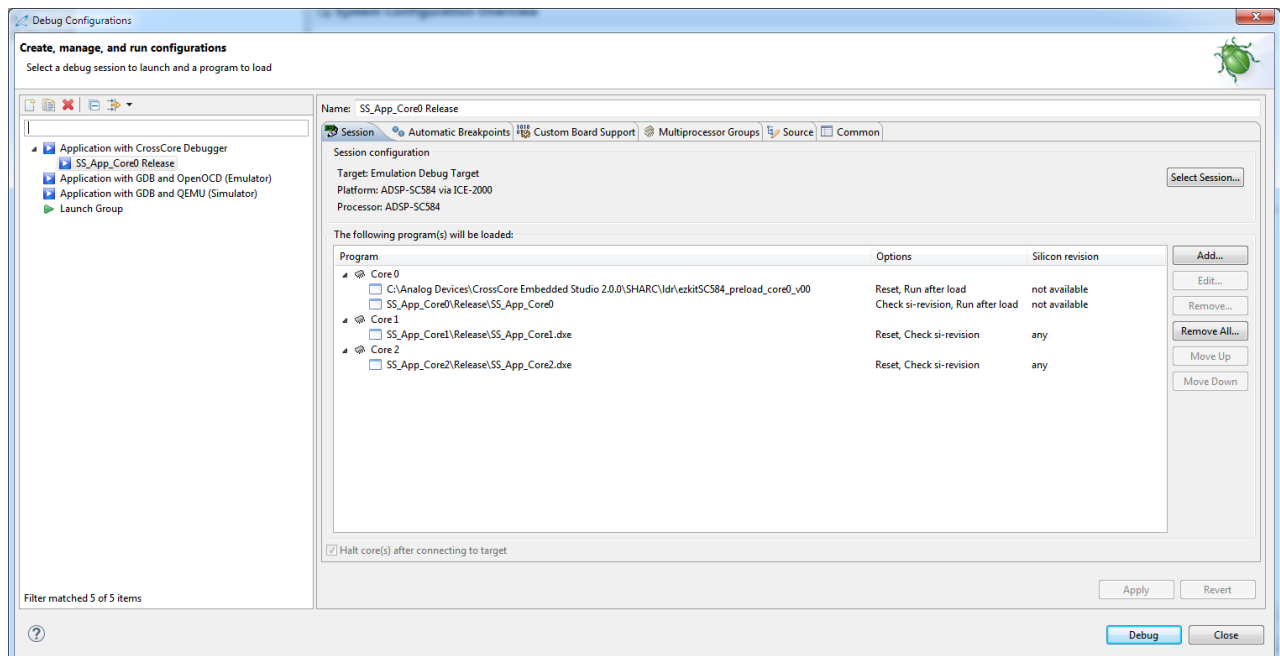

Figure 14: Debug Configuration
6. Load the prebuilt DXE’s for appropriate target ‘SS_App_Core0’ on Core 0, ‘SS_App_Core1.dxe’ on Core 1 and ‘SS_App_Core2.dxe’ on Core 2 as shown in Figure 14. Prebuilt DXEs of each project can be found inside the respective ‘Release’ folders of each of the projects.